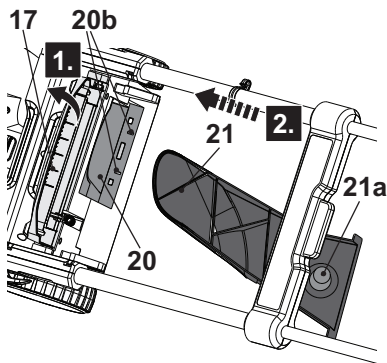

Fig. 16
1. Open the deflector guard (17), hold the handle (21a) in position and insert the mulching insert (21) into the rear discharge chute (20) (Fig. 16). Ensure the spigots (21b) snap into the rear discharge chute slots (20b).